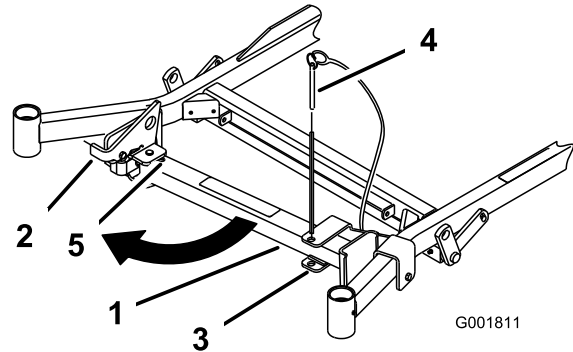
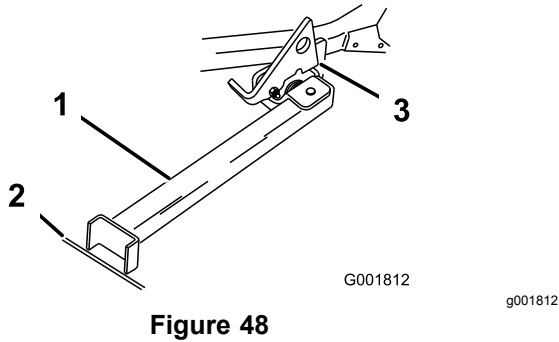

Figure 47
Figure 48
2. Remove the bracket pin (Figure 47).
- Swing the stand foot out front and slide it toward machine, into the bottom of slot (Figure 47 and Figure 48).
- Set the foot of the stand on the ground and rest the latch on the pivot tab (Figure 48).
**Note:** For best results, place the foot of the stand into the seams in sidewalks or into the turf (Figure 48).
- Drive the machine onto the stand. Stop when the latch drops over the tab into the locked position (Figure 48).
- Return the stand to its rest position (Figure 47).